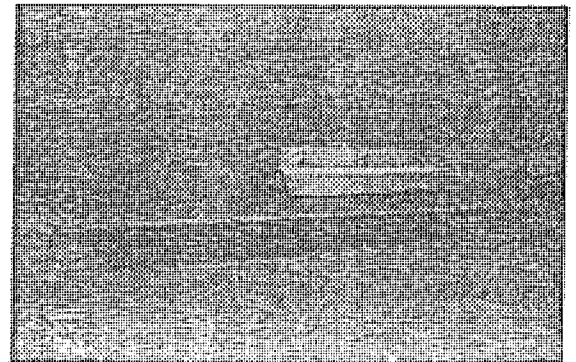

Figure 23. Note how the clips on the back of the panels slide onto the Side Wall Frame.
- 64 Mount the Stand Off Panels in the Cab by lifting them into place. See figure 23.